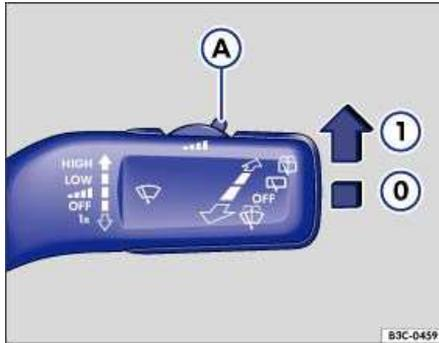

Fig. 45 Windshield wiper switch: adjusting rain sensor settings.
- Move the lever up to position (1) ⇒ Fig. 45.
- Move switch (A) to adjust the rain sensitivity.
- Move the lever back to position (0) ⇒ Fig. 45.